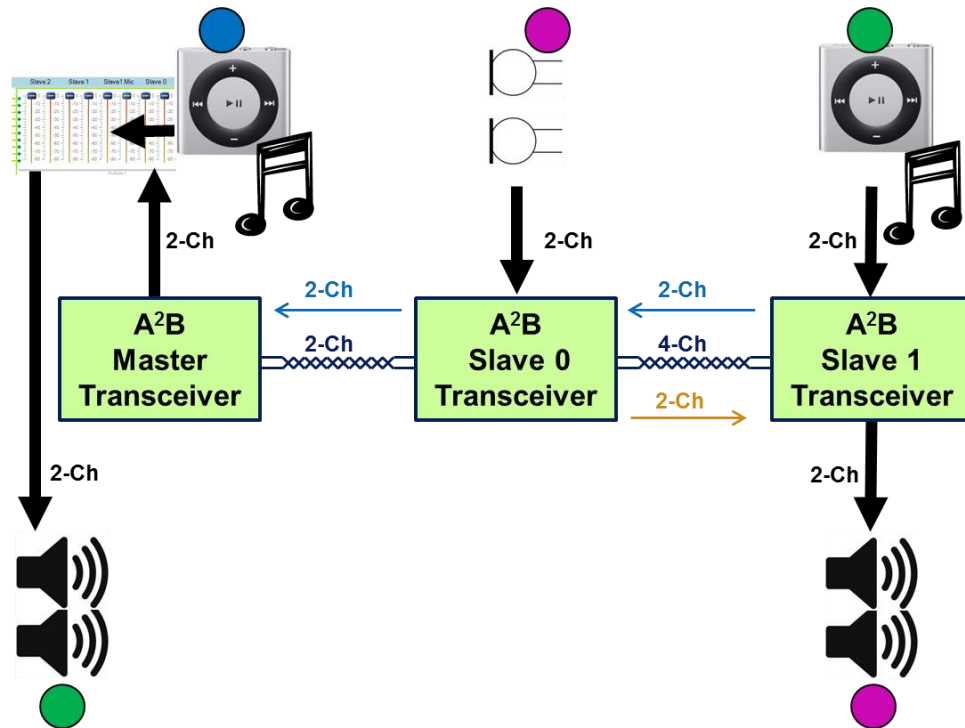

Figure 9: Sample A2B demo configuration
The sample demo configuration is as shown in Figure 9. The audio source connected to slave 1 will be played out at master node. The microphone audio from slave 0 will be played out at slave 1.
5. After successful discovery and initialization audio routing can be observed as per the sample demo configuration shown in Figure 9.
Audio routing over the A2B bus is controlled using the schematic defined for the master node SigmaDSP (acts as Audio Host). The master schematic provided with this release supports audio routing as per the sample A2B demo configuration as given in Figure 9. To override this routing the following steps shall be followed. Note that the steps suggested here shall be followed only if dynamic audio rerouting is desired.